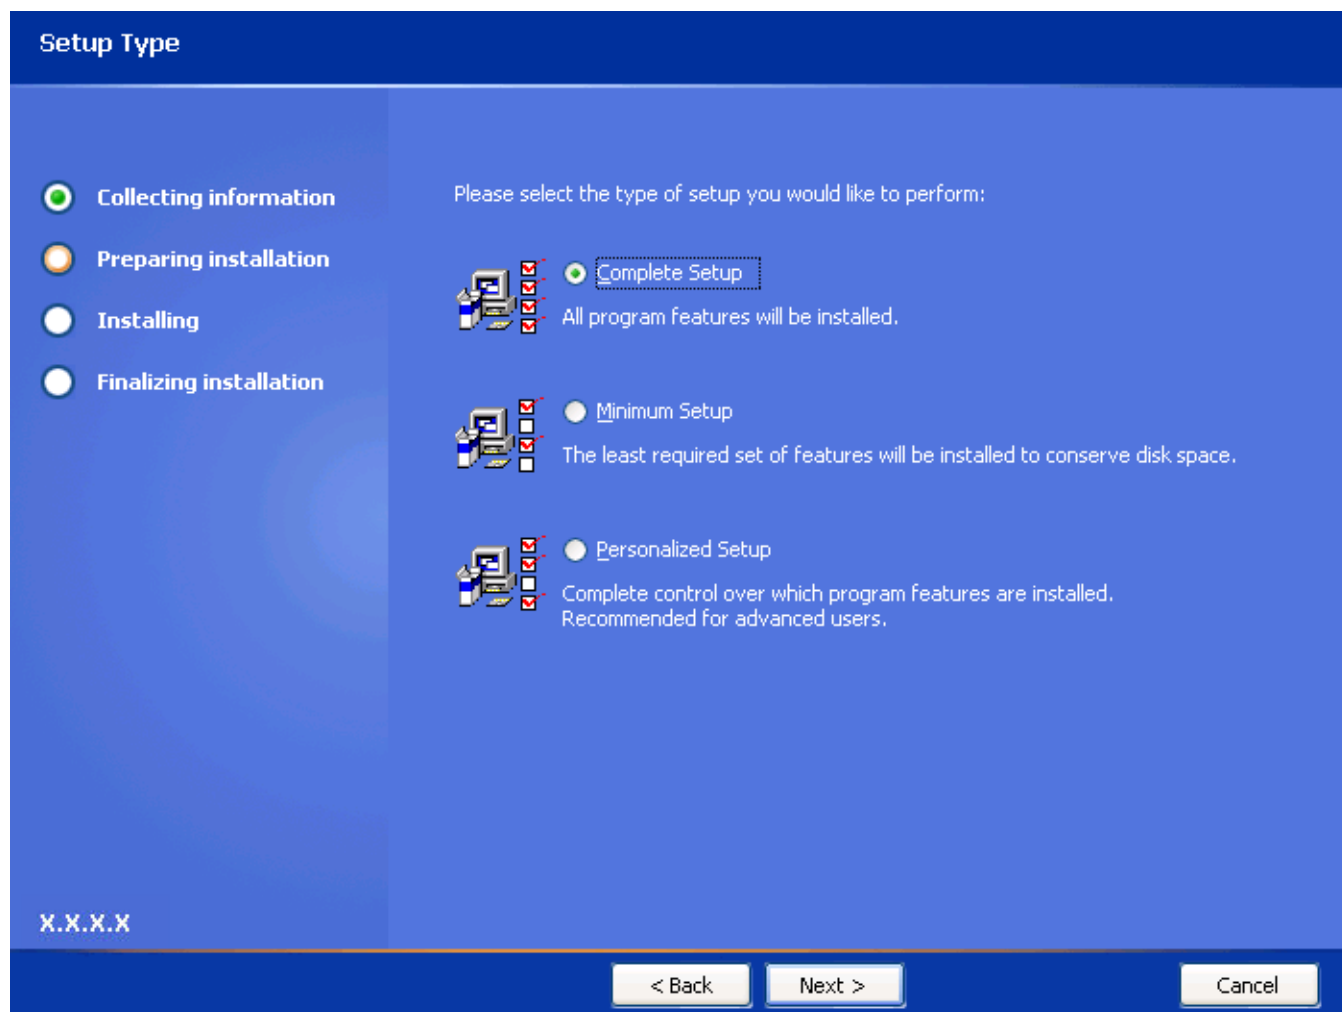

Figure 4 - Setup Type Screen
7. Click on the **Next** button. The **Setup Type** screen (Figure 4) appears.